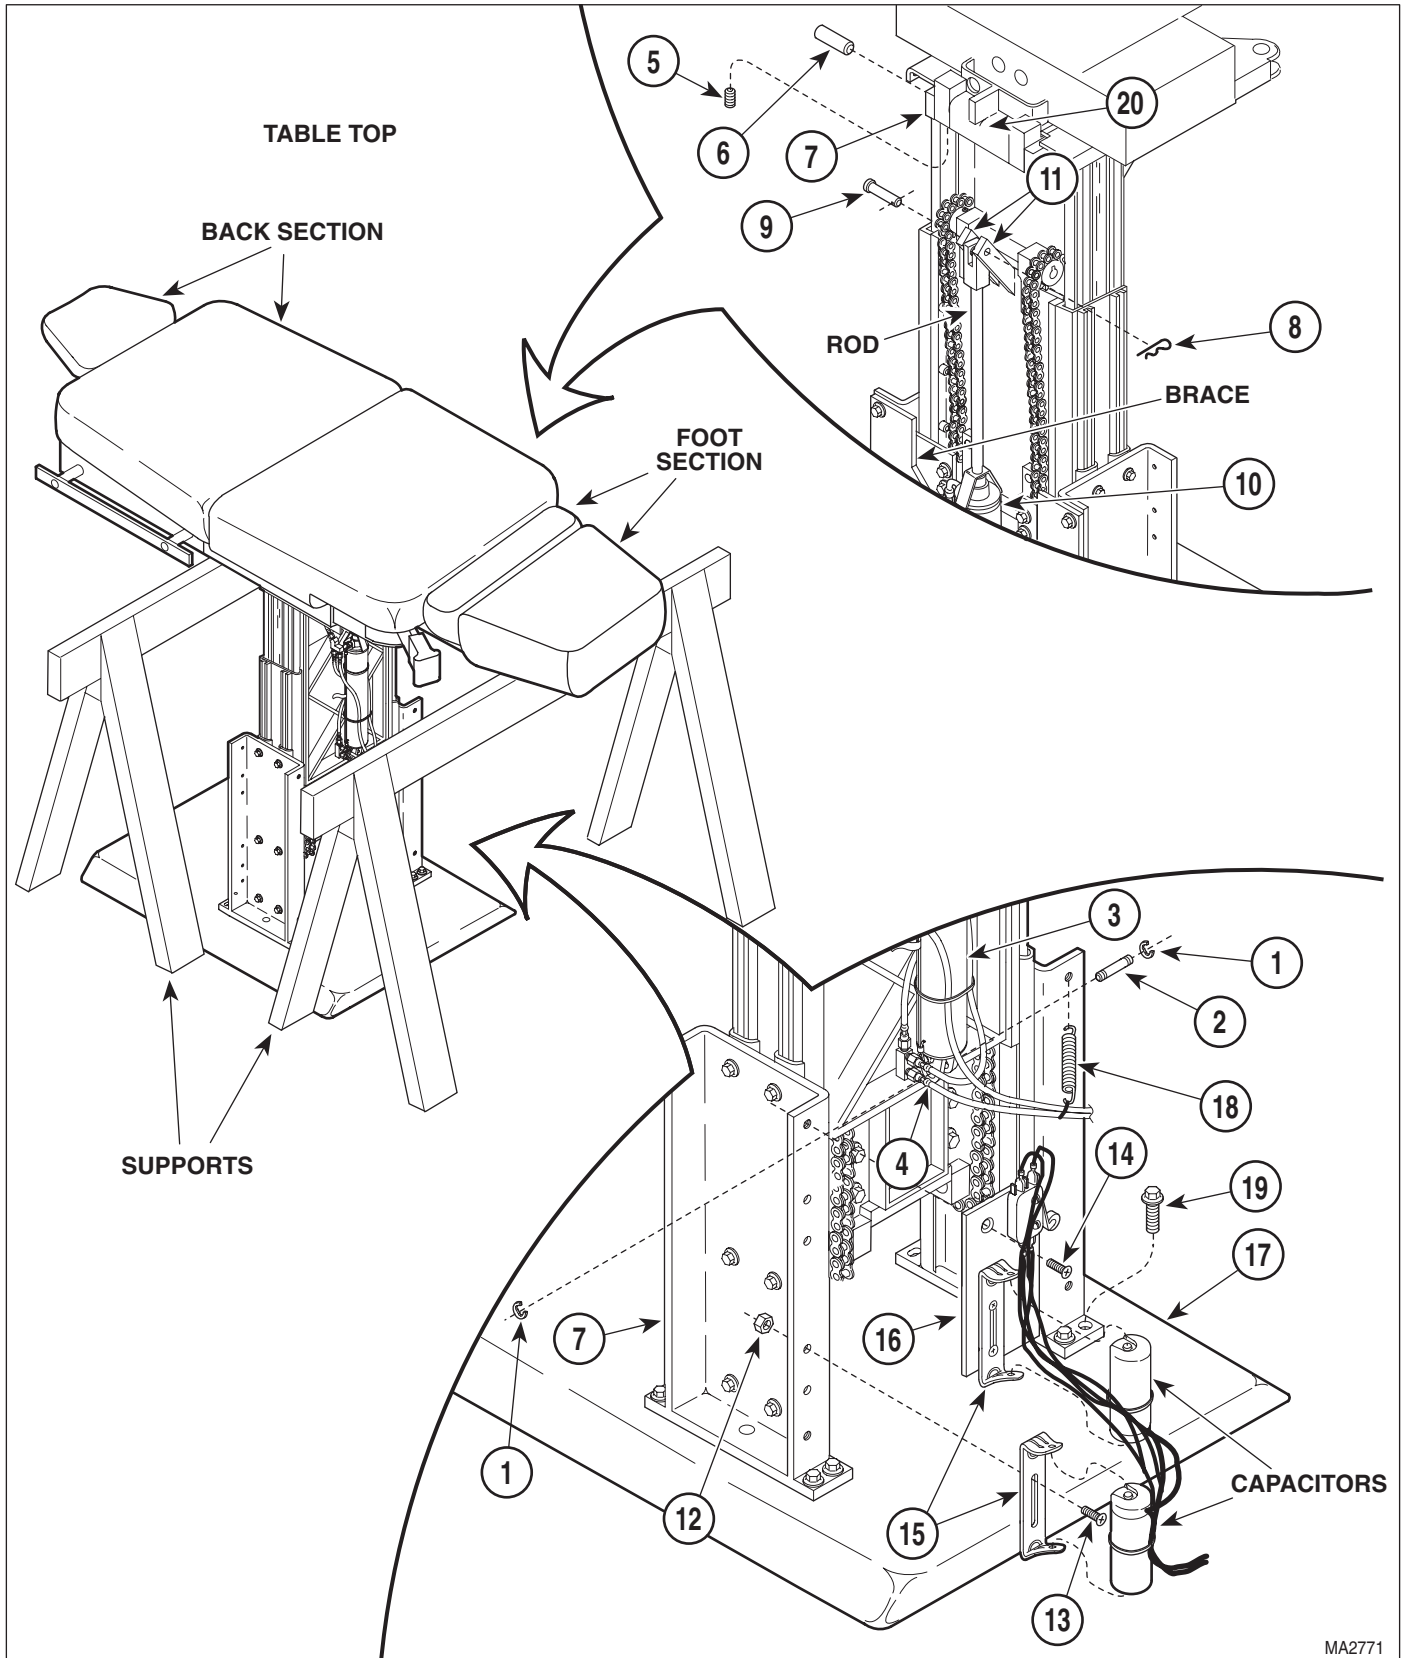

Figure 4-27. Base Slide Assembly Removal / Installation
- (11) Place supports (See Figure 4-27) under foot section and head section of table top, making sure weight of table top is being supported by supports. If necessary, plug table power cord into outlet and lower table top onto supports. Unplug table power cord from outlet.
- (12) Remove two e-rings (1, Figure 4-27), clevis pin (2), and separate tilt cylinder (3) from bracket (4).
- (13) Loosen four setscrews (5). Remove two tilt pivot pins (6) from base slide assembly (7).
- (1) With the help of an assistant, install base slide assembly (7, Figure 4-27) on base weldment (17), making sure base cylinder (10) gets inserted between brace and base slide assembly.
- (2) Secure base slide assembly (7) on base weldment (17) with eight screws (19).
- (3) Connect spring (18) to base slide assembly (7).
- (4) Install auto return bracket (16) and two capacitor mounting brackets (15) on base slide assembly (7) and secure with one screw (14), four screws (13), and five nuts (12).
- (5) Install capacitors (Refer to para 4.15).
- (6) Install rod end of base cylinder (10) on bracket (11) and secure with clevis pin (9) and hitch pin clip (8).